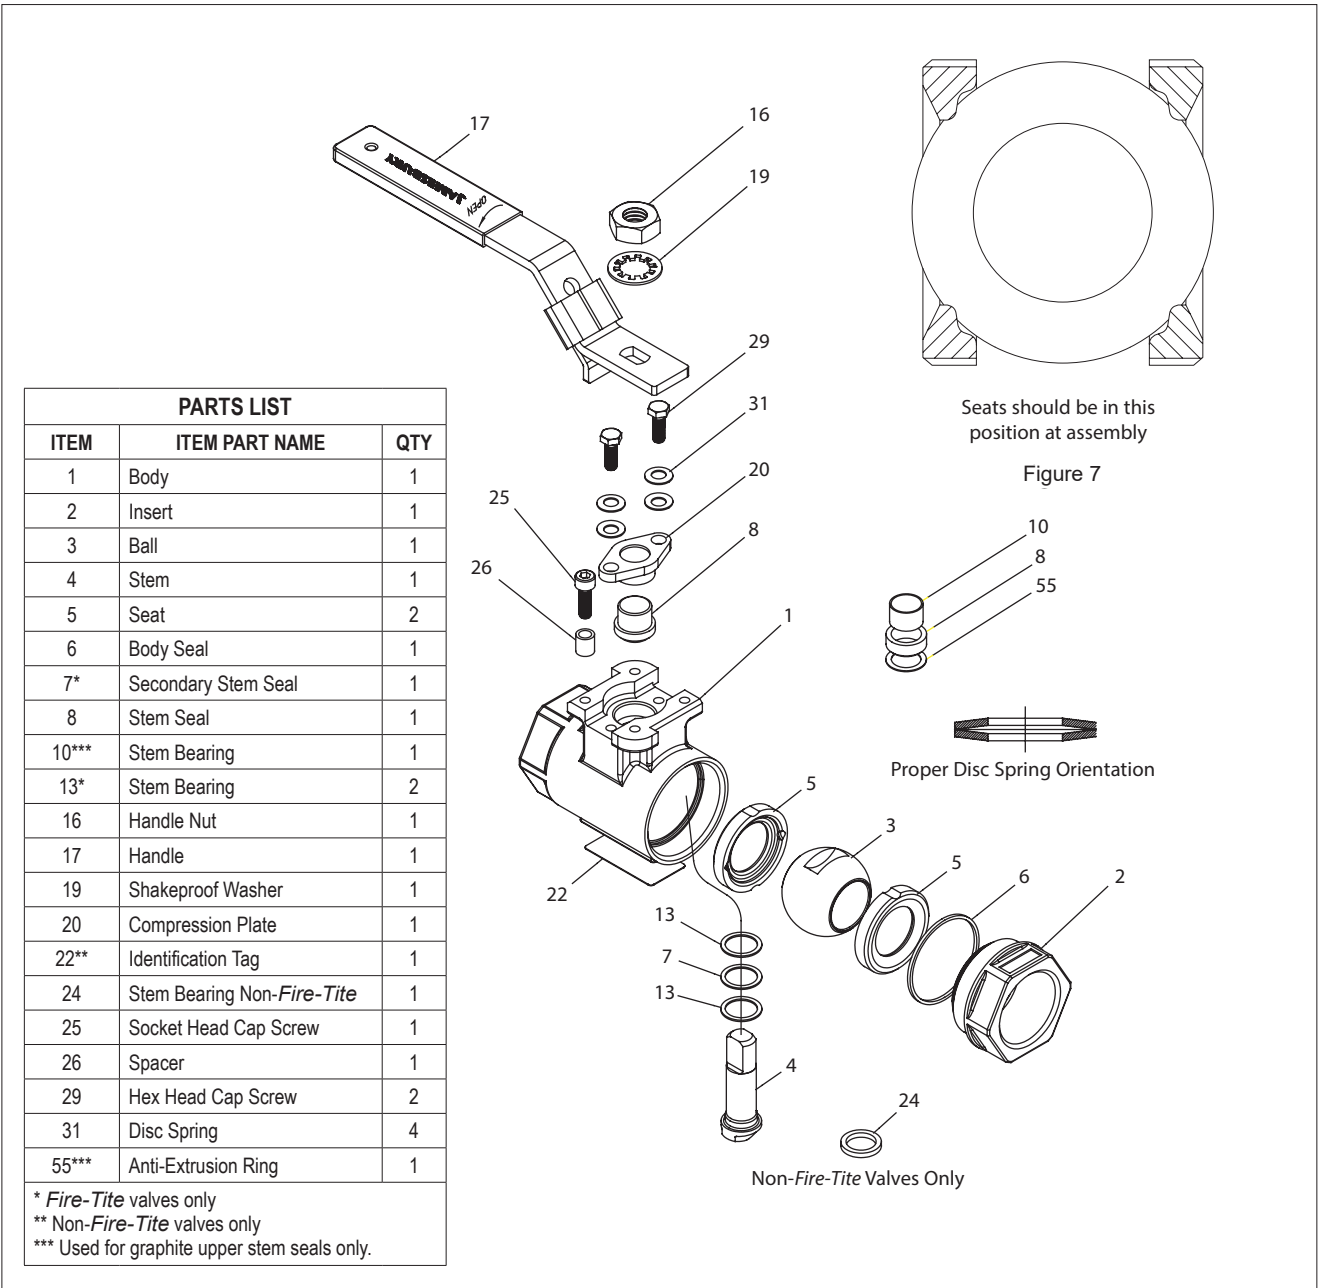

Figure 8
- From Figure 8, the ballooned part number, part name and quantity required.